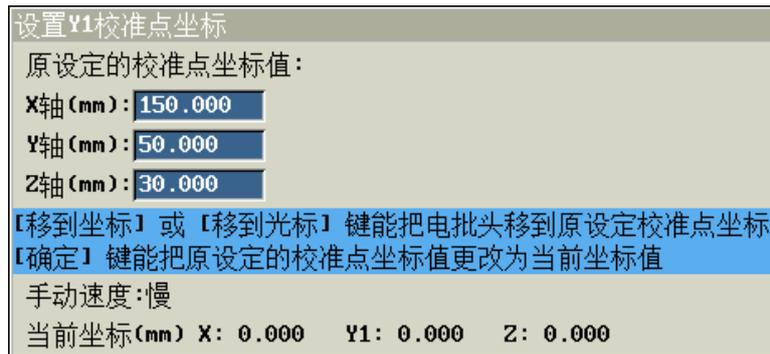

Figure 0.54 "Setting the Y1 calibration point coordinates" window
**Calibration point coordinate setting mode 1:** Press "Number 1"  key to select "1. Set coordinate as calibration point", and the pop-up will appear as in Figure 0.54. The window shown in Figure 1.54 will pop up.